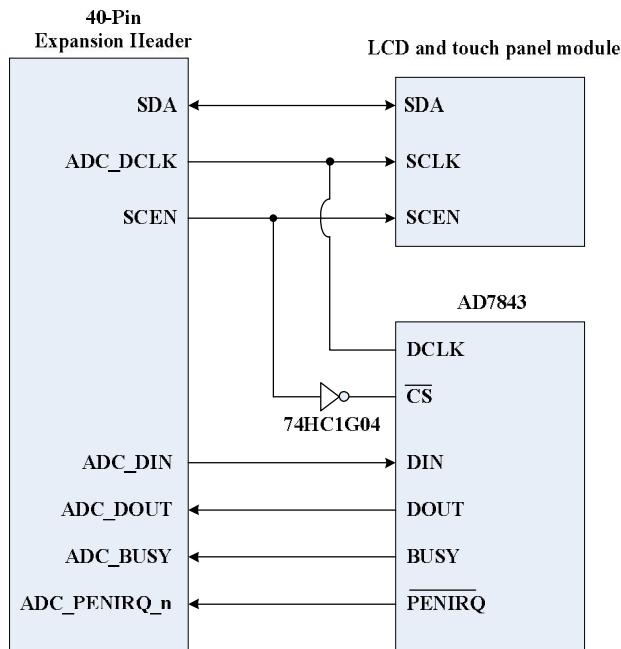

Figure 3.1 The serial interface of the LCD touch panel module and AD7843
Because of the limited number of I/O on the expansion header, the serial interfaces of the LCD driver IC and ADC need to share the same clock (ADC_DCLK) and chip enable (SCEN) signal I/O on the expansion header. To avoid both the serial port interfaces may interfere with each other when sharing the same clock and chip enable signals, the chip enable signal (CS), which is inputted into the ADC will come up with a logic inverter as shown in Figure 3.1.